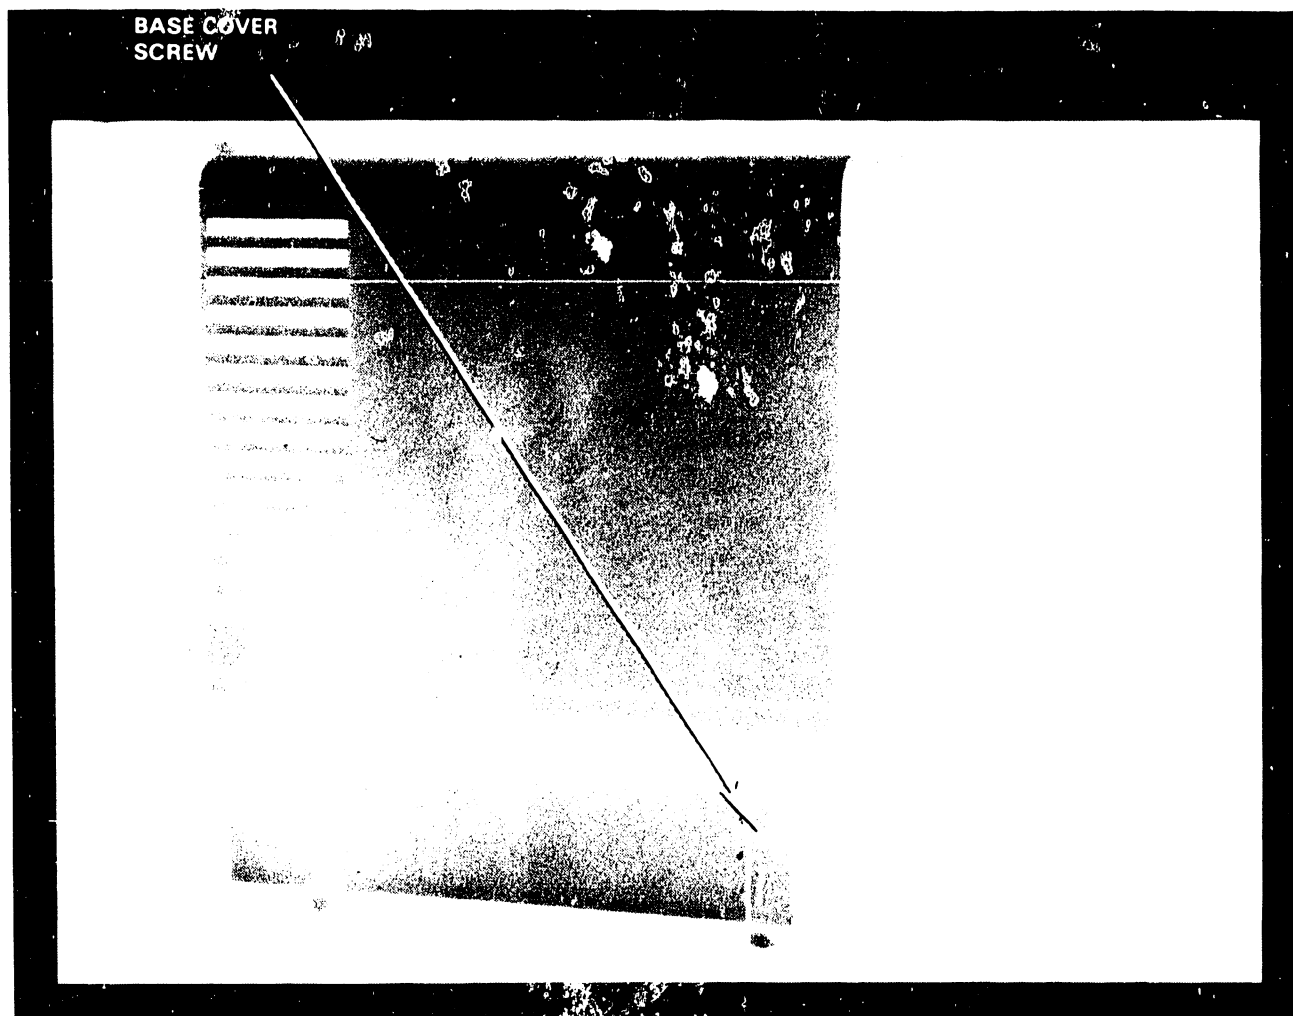

Figure 5-6 Removing the 5730 Monitor Electronics Board Cover
2. Remove one screw from each side of Electronics Board cover (Figure 5-6).